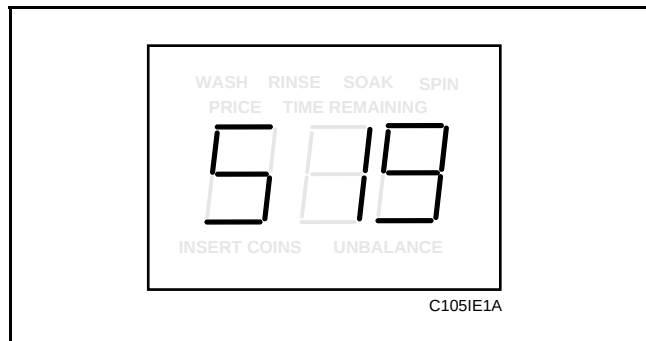

Figure 19
2. While pressing and holding the PERM PRESS keypad with one hand, press the COLD keypad with the other hand. Programmable option number one, “Slg”, will appear in the VFD. See **Figure 19**.